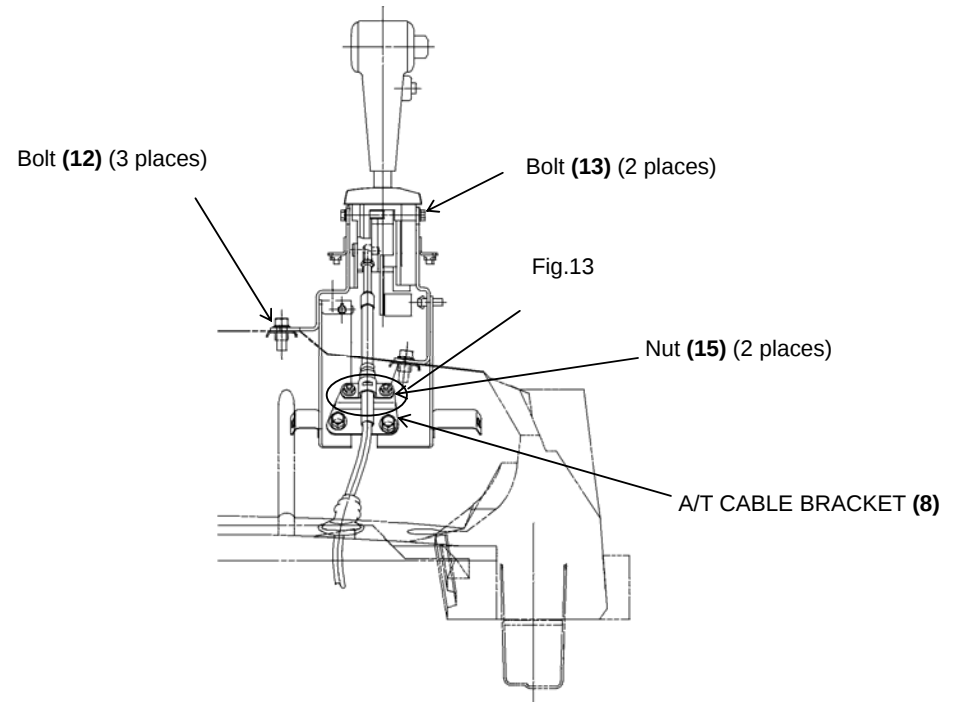

Fig 12. Installation of Selector (Front View)
5. Shift the Selector Lever into “N” Position, and install the Selector and the LH Bracket as shown in Figure 12.
6. Install the Selector Bracket to Cab Floor. Tighten Selector Bracket together with the Cable Bracket as shown in Figure 12.
7. Align the projection of the Cable Clip into the groove on Casing Cap on the Cable, and install the Cable Clip into the Cable Bracket as shown in Figure 12, 13.